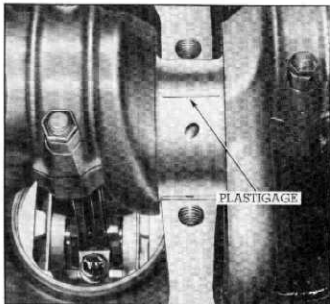

Fig. 52—Plastigage on Journal
- Place a piece of Plastigage the full width of the bearing (parallel to the crankshaft) on the journal (fig. 52).